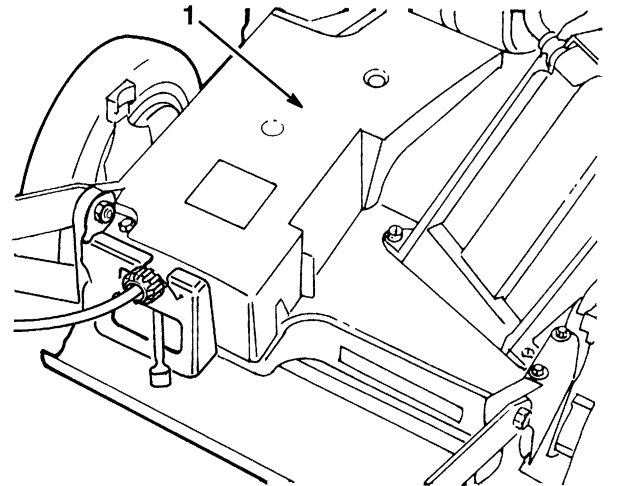

Figure 32
1. Remove bolts securing belt cover (Fig. 32) to mower housing. Lift off cover and brush out all debris from belt area. Reinstall belt cover.